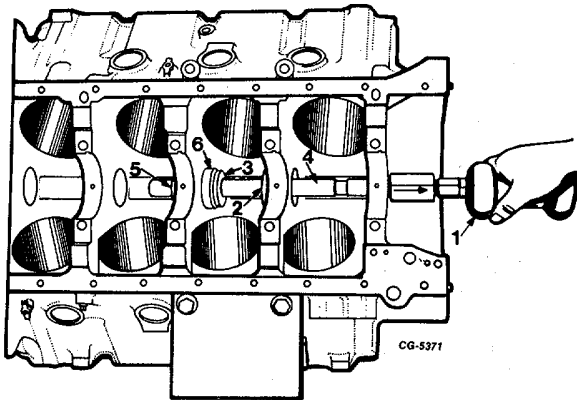

Fig. 78 Removing Third Bearing
1. Position one adapter SE-1897-7 in the second bearing with the flange toward the rear of the block, Fig. 78.
2. Position another adapter SE-1897-7 in the third bearing with the flange toward the rear of the block, Figure 78.
4. Using the second bearing adapter as a pilot, pull the third bearing with the slide hammer, Figure 78.